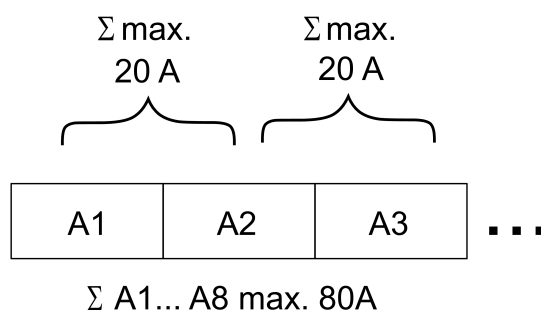

Figure 3: Current carrying capacity of load outputs
- Observe the current carrying capacity (see figure 3)